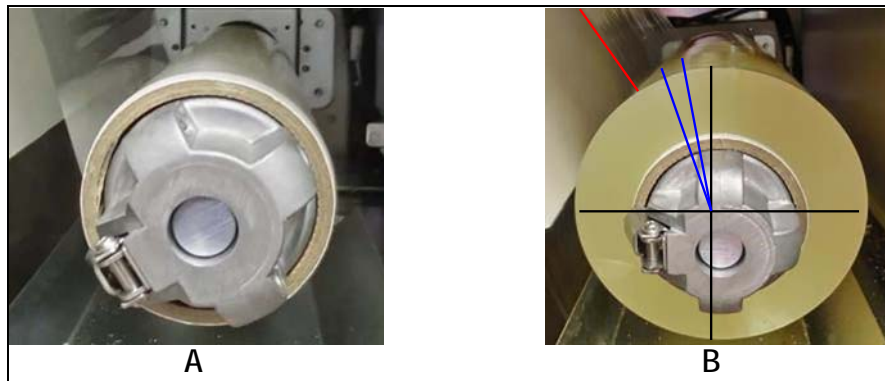

Figure 1. Incorrect Film Exit Positions (Excessive Film Roll Braking)
- The film roll stop position should be between a 70° to 80° or 11:00-11:30. See blue lines in Figure 1.
As the amount of film on the roll is reduced the film may be stretched tight, with no wrinkles, causing the film to pull back, away from the cutter. If this occurs the film roll brake is too strong and out of adjustment. See Figure 1-A.
Figure 1-B illustrates the stop position is below 70° and 11:00.
In both Figure 1-A and Figure 1-B the film roll brake is too strong and out of adjustment.